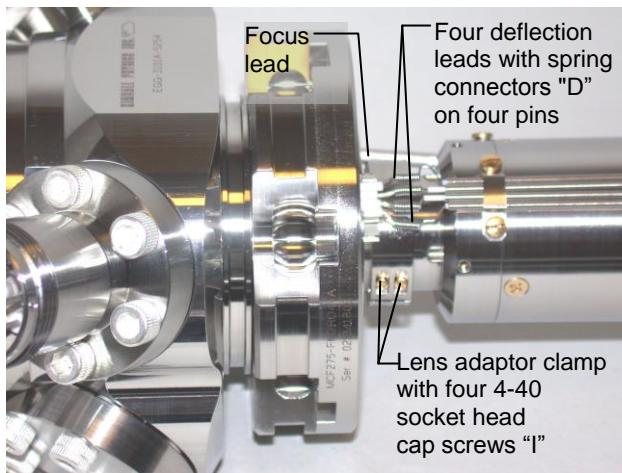

Fig. 6.6-3 Lens adaptor clamp and flange connections
- c. Remove the four deflection leads by sliding their spring connectors off the pins ("D" in Fig. 6.6-3). For reassembly, make note of the position and orientation of each of the four leads as they are removed.
- c. Tighten the four screws ("I" in Fig. 6.6-3 and Fig. 6.6-5) in the lens clamp. Also tighten the 4-40 set screws next to the flange ("J" in Fig. 6.6-5) if loosened.
- a. Replace the four deflection leads in their original positions as noted during disassembly, sliding the spring connectors onto their appropriate pins ("D" in Fig. 6.6-3). In the correct orientation the bent leads should slide easily onto the pins.